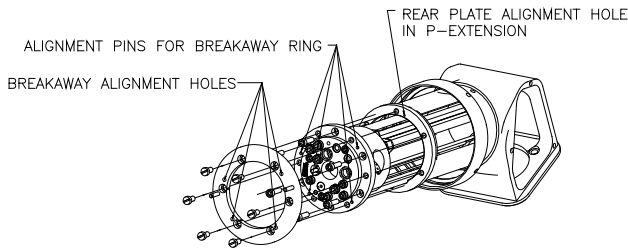

Figure 35: Cup Wash Manifold Removal / Replacement
(See Figures 35 and 36)
Align the locating pin and the rear plate with the locating hole of the atomizer extension. Install the six (6) 6mm socket head screws. Tighten to 15 lbs•in (1.69 Nm) torque (see Figure 35).